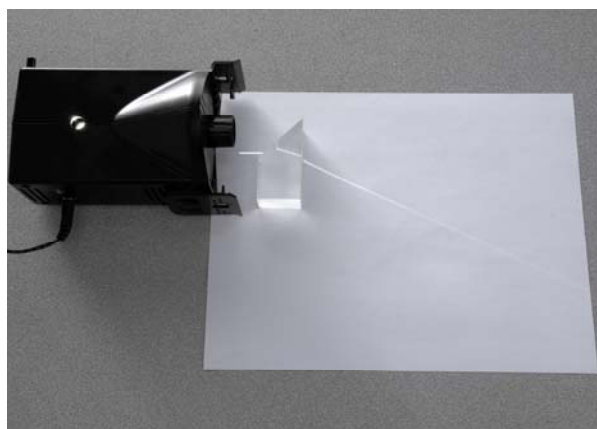

Figure 4: Single Ray of Light
6. Place the basic optics light source flat on the lab table and rotate the knob on the front of the light source to produce a single ray of light as in Figure 4. Adjust the position of the light source so that the light ray is incident on the angled side of the rhomboid and aligned with the 45° line drawn on your paper.